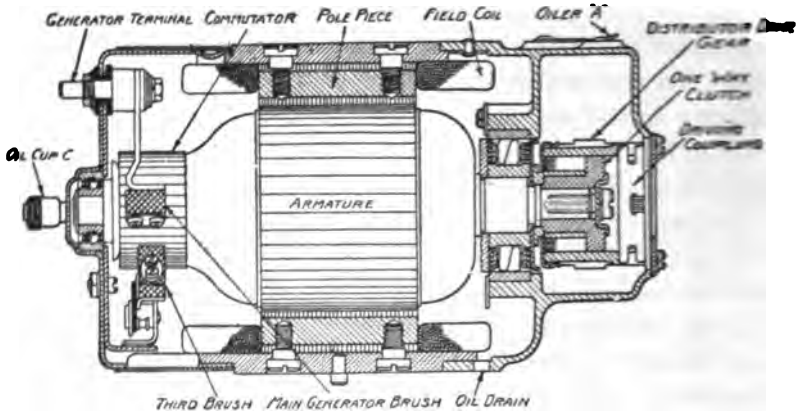

Fig. 251. Generator of Delco Two-Unit System
**Generator.** This generator is a bipolar machine of the shunt-wound type, a section of which is illustrated in Fig. 251. As installed on the Westcott (1917)—a wiring diagram of this installation being illustrated in Fig. 255—the generator is driven from the water-pump shaft through a one-way clutch, that is, a type that will drive when turned in one direction but will run free when driven in the opposite direction. This permits the generator armature to revolve when the engine is not running, thus preventing a heavy current discharging through the generator from the battery when the ignition switch is turned on while the engine is idle. This is due to the fact that the